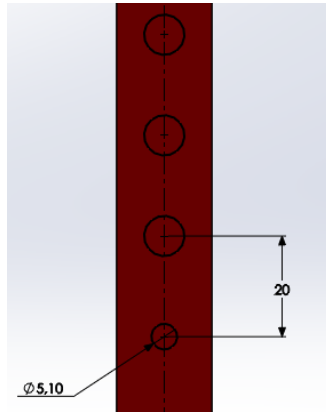

Figure 9: Additional anchor point hole position.
Step 6: Measure and mark the position for the extra anchor point on the rail, 20mm behind the furthest rear locating hole. See Figure 9 below for reference.